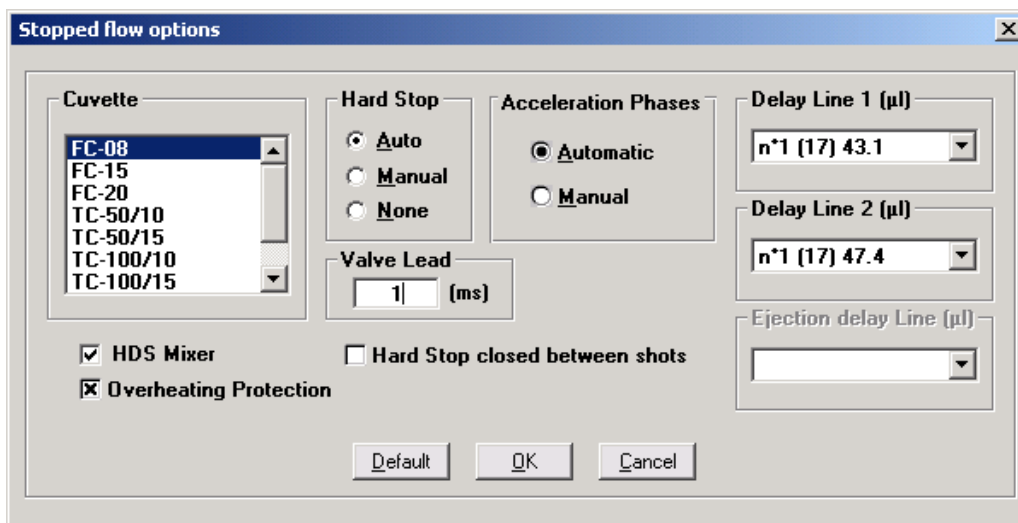

Figure 28: SFM options.
- **Hard-stop:** 'auto' is the default mode. In this position, the hard stop is closed at the end of the pushing phase (or few milliseconds before depending on the lead time chosen) and remains closed until the end of the acquisition. As soon as the acquisition is finished, the hard-stop opens. In case the user wants to leave the hard-stop closed after the acquisition (for example to perform a spectrum), it is necessary to choose the **Hard-stop closed between shots** option (see Figure 28). When using the 'manual' mode the hard-stop is programmed to open and close by the user (through the synchro out 2). If 'none' is selected, the hard-stop is always open.